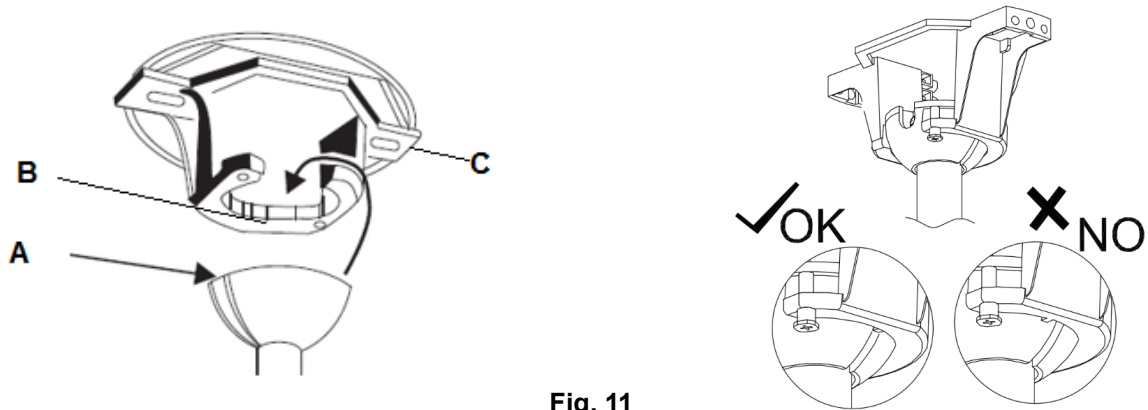

Fig. 11
Lift the fan assembly onto the mounting bracket. Ensure the key slot (A) of the hanger ball is positioned on the key pin (B) of the mounting bracket (C) to prevent the fan from rotating when in operation. **(Fig. 11)**